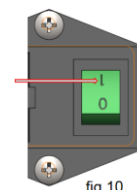

fig 10
2: Turn the operation handle of power switch to “1” (fig 4) the unit will start immediately pressurize.(See Fig. 10).
- Release air pressure in the pressure tank by opening the drain valve (1) (Fig.10).